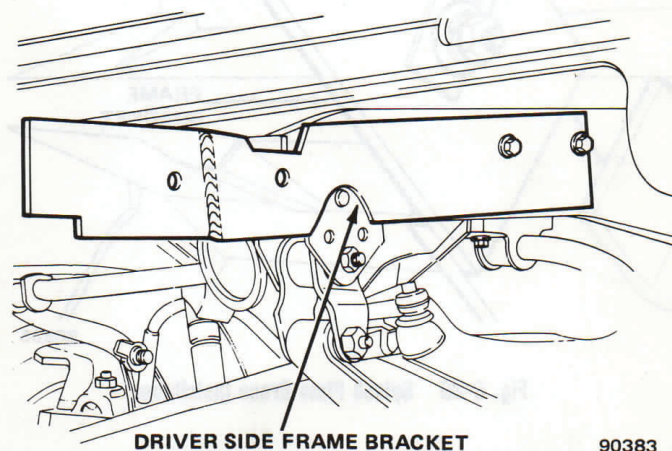

Fig. 5-28 Frame Bracket Installation
(9) Install driver- and passenger-side frame brackets on vehicle frame rails (fig. 5-28). On 1976-78 models, use original bumper bracket bolts to attach frame